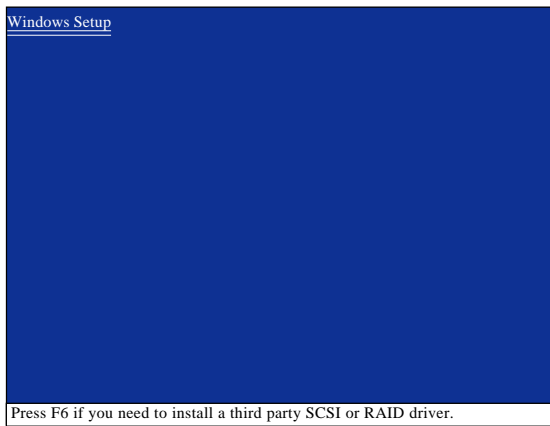

Figure 1
Step 1: Restart your system to boot from the Windows XP setup disk and press <F6> as soon as you see the message "Press F6 if you need to install a 3rd party SCSI or RAID driver" (Figure 1). After pressing <F6>, there will be a few moments of some files being loaded before you see the next screen.